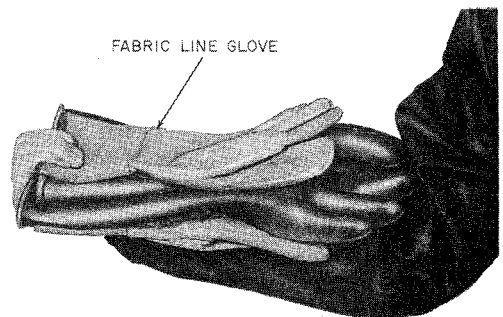
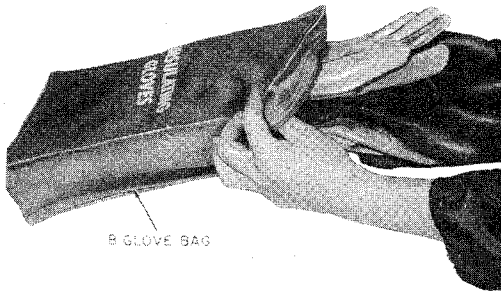

Fig. 7—Stacking Gloves
Fig. 8—Placing in Storage Bag
**10.06** Grasp all gloves together at the cuff in one hand and slide the hand holding the cuffs into the bag (Fig. 7). Insulating gloves must be stored with the fingers up to prevent them from collapsing or putting undue stress on the finger area (Fig. 8). When closing the zipper, keep one finger inside, guiding the zipper, to ensure that the insulating gloves are not pinched.